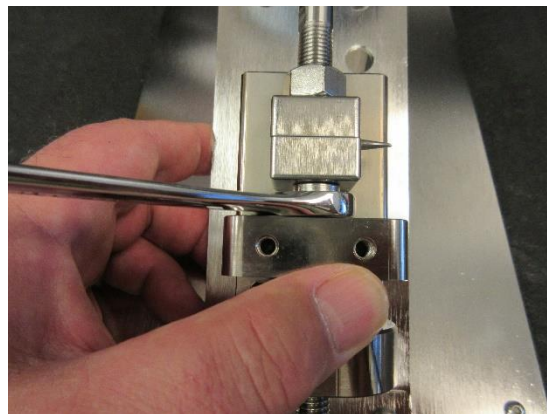

Figure 3.2.3a
- While holding the thumb wheel so that the threaded rod does not rotate, use the 9/16” open end wrench to loosen the jam nut by turning it clockwise. *Figure 3.2.3a*